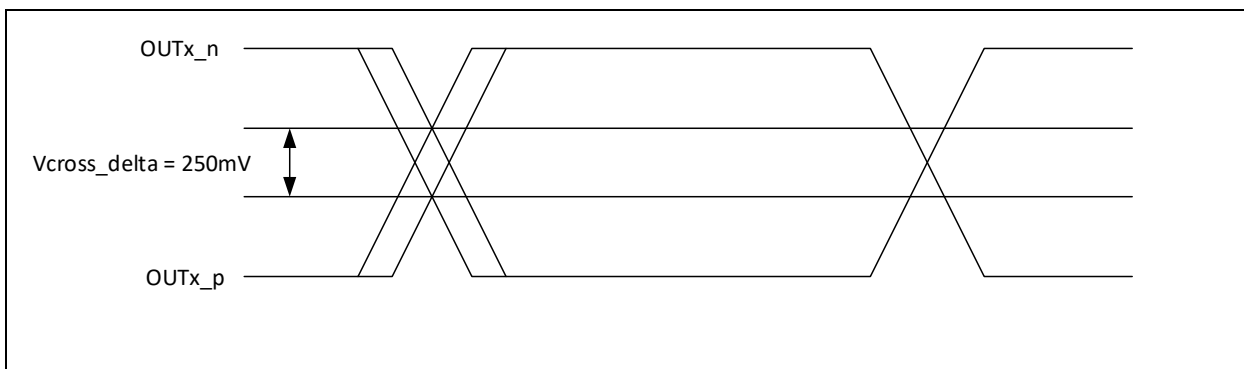
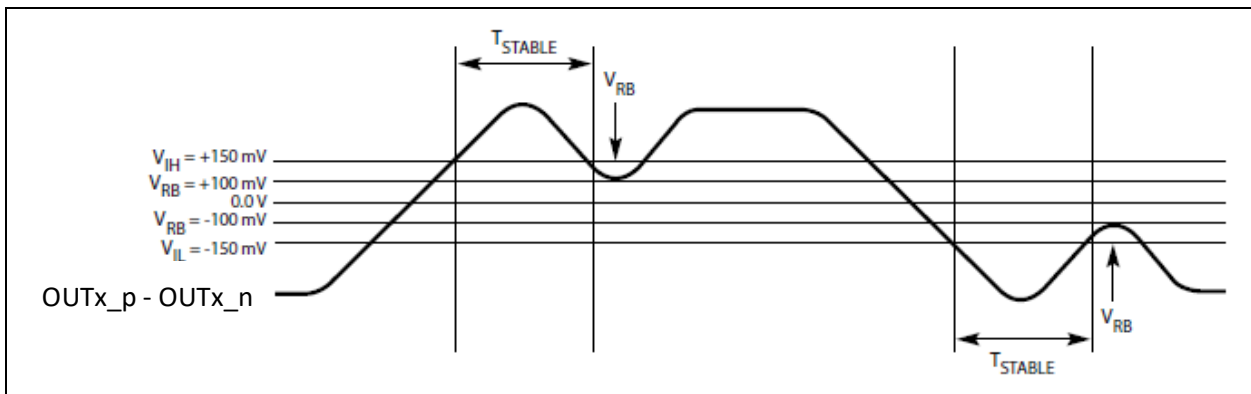

Figure 15. Single-Ended Measurement Points for Delta Cross Point
Figure 18. Differential Measurement Points for Ringback
(9) Defined as the total variation of all crossing voltages of Rising CK and Falling CK# This is the maximum allowed variance in VCROSS for any particular system. See Figure 15.
(10) The PPM requirement from PCIe Express Base Specification, Revision 4.0 is related to clock generation devices. This requirement is not applicable to buffers because buffer's output frequency accuracy is identical to the frequency accuracy of the source driving the buffer.
(11) T_{STABLE} is the time the differential clock must maintain a minimum ±150 mV differential voltage after 20 rising/falling edges before it is allowed to droop back into the V_{RB} ±100 mV differential range. See Figure 18.